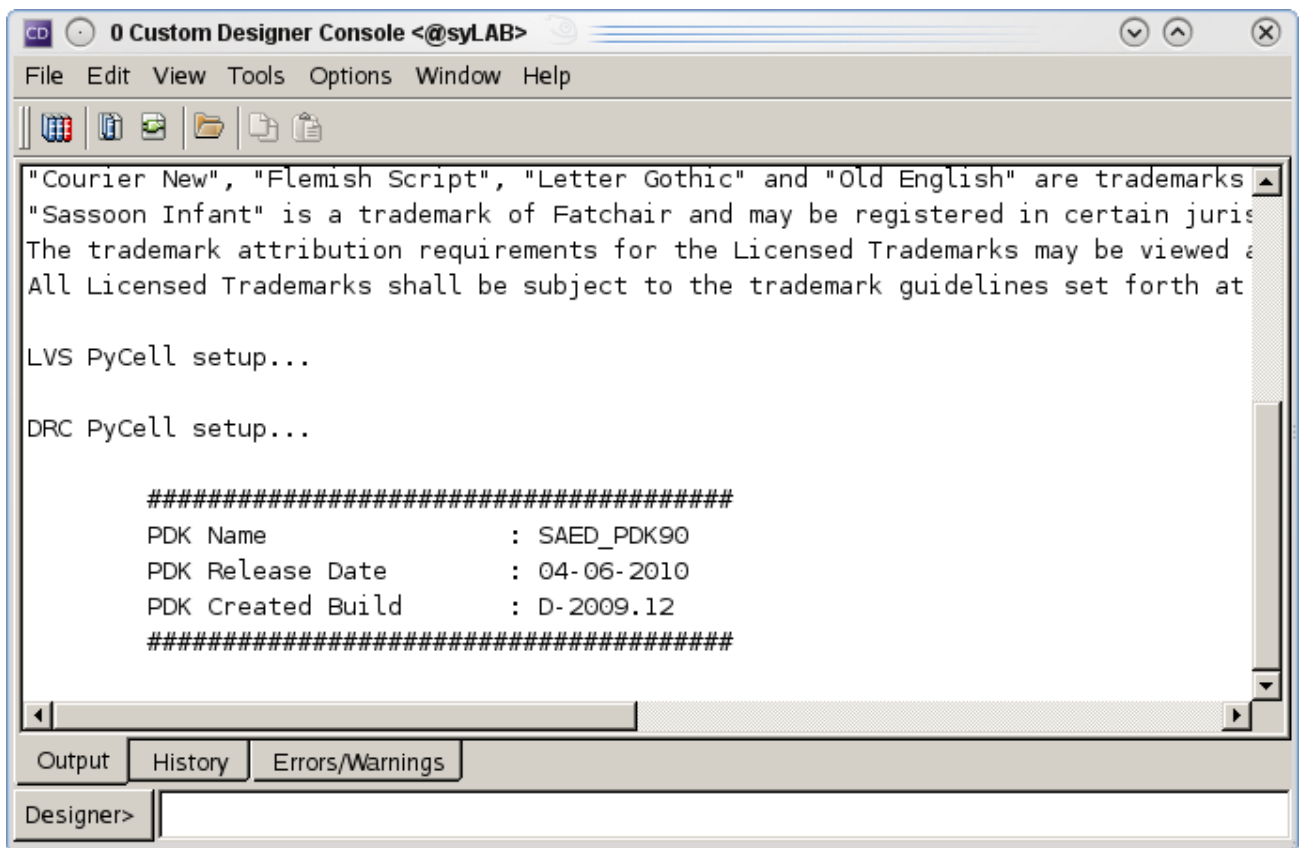

Figure 2: Custom Designer Main window
Go to TOOLS menu in figure 2. *Tools > Library Manager*. You will get the window in fig (4).
2. Go to edit menu. *Edit > cell category*. Window in fig (5) will pop up.
7. The second column in fig (4) now changes and contains the new categories.
8. Close the window in fig (4).